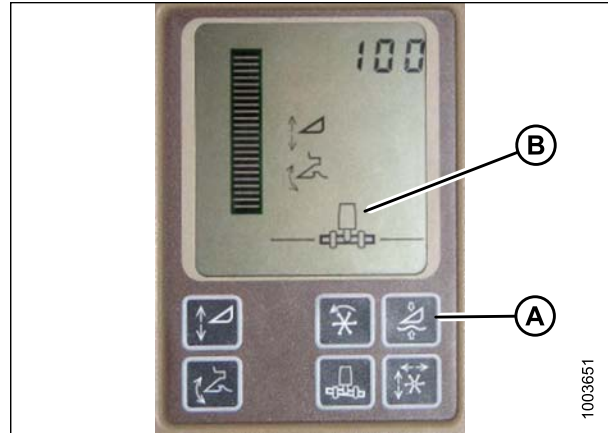

Figure 7.212: John Deere Combine Display
Do **NOT** use the active header float function (A) in combination with the MacDon auto header height control (AHHC)—the two systems will counteract one another. The header symbol (B) on the display should **NOT** have a wavy line under it and should appear exactly as shown on the Active Header Control Display in Figure 7.212, page 252.